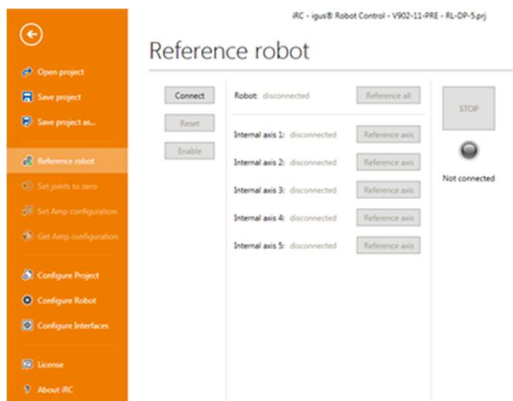

Figure 7.5: Referencing window.
5. Click the buttons to start referencing the axes, see Figure 7.5. Several joints can perform the referencing in parallel.